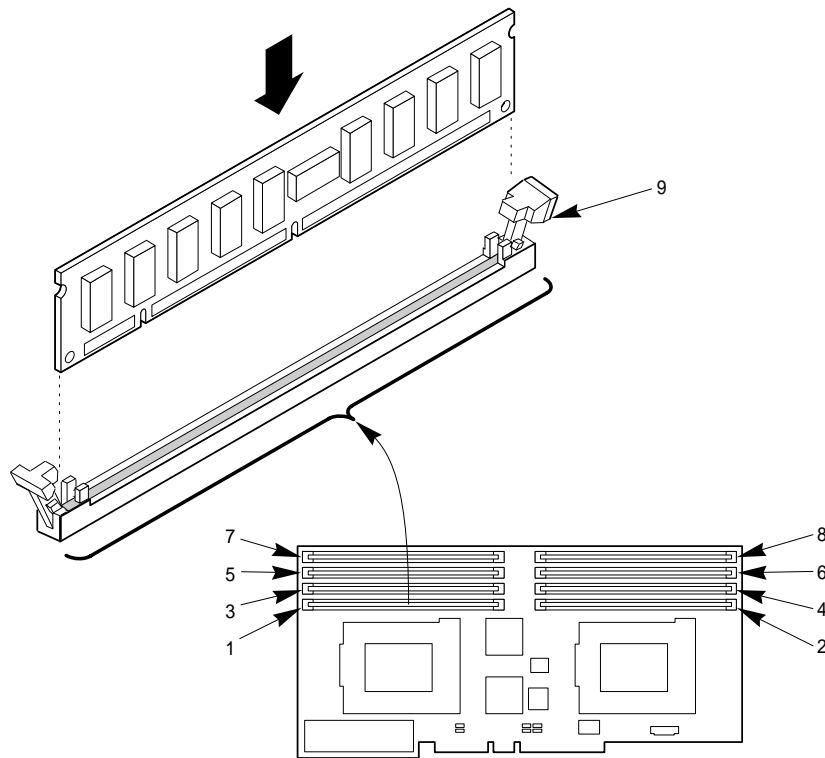

Figure 8-6. DIMM Orientation
See Figures 8-6 and 8-7.
6. Insert the bottom edge of the DIMM into socket J1, and press down firmly on the DIMM until it seats correctly (Figure 8-6).